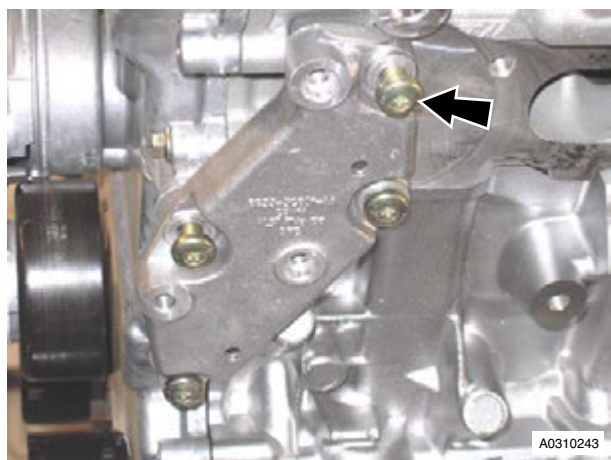

Figure 6
46. Remove the four M8 Torx bolts that attach the PAS pump mounting bracket to the cylinder block and remove the bracket (refer to Figure 6).